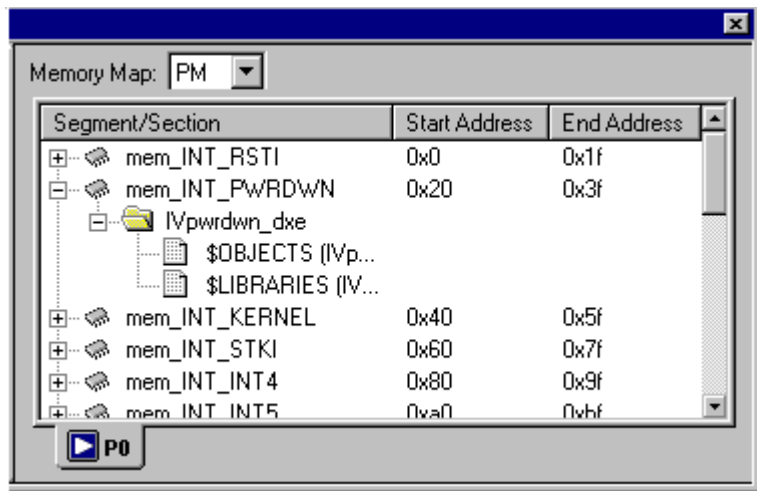

Figure 3-15. Expert Linker Window – Memory Map
- **Memory Map Tree** – Displays the memory map in a tree representation (see Figure 3-15 on page 3-21).